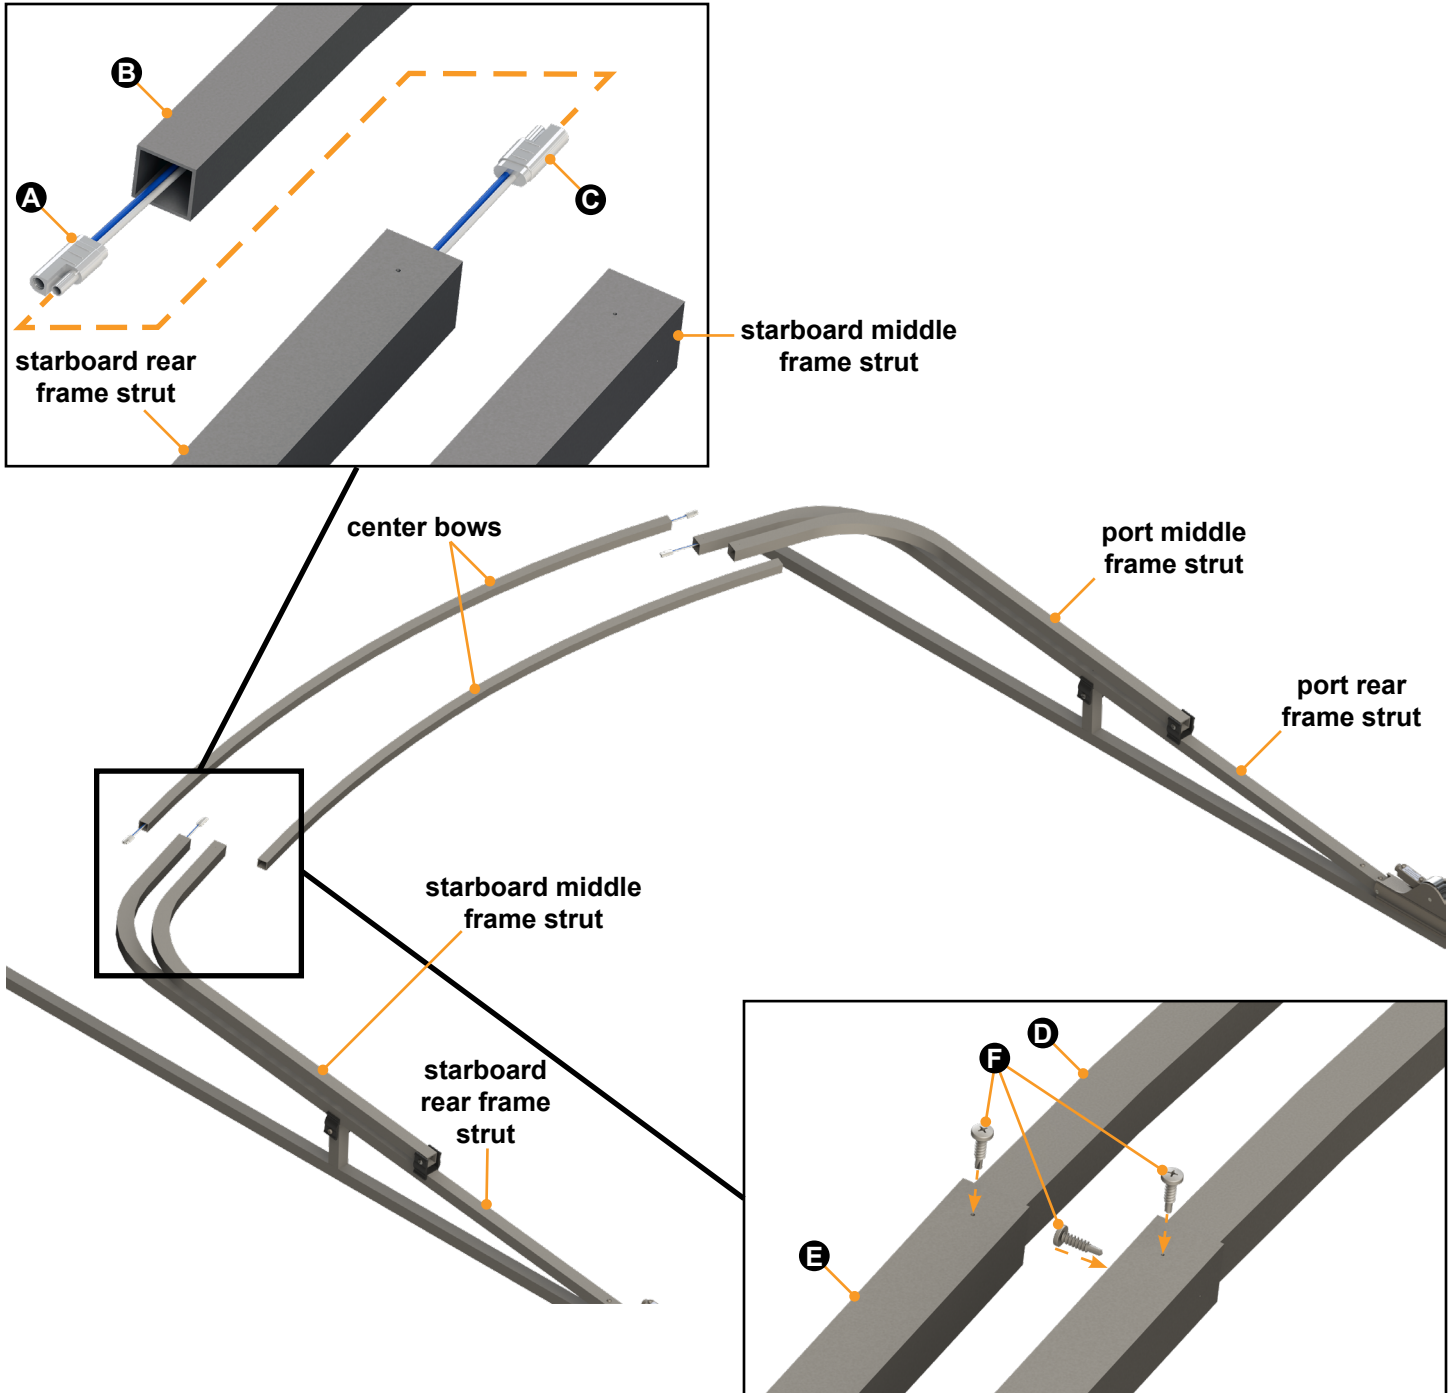

Fig.13
D. Slip a center connecting bow into the starboard and port middle frame struts (Fig.13).
I. Install one screw on each starboard and port rear strut where shown in figure 13.
II. Install two screws on each starboard and port middle strut where shown in figure 13.